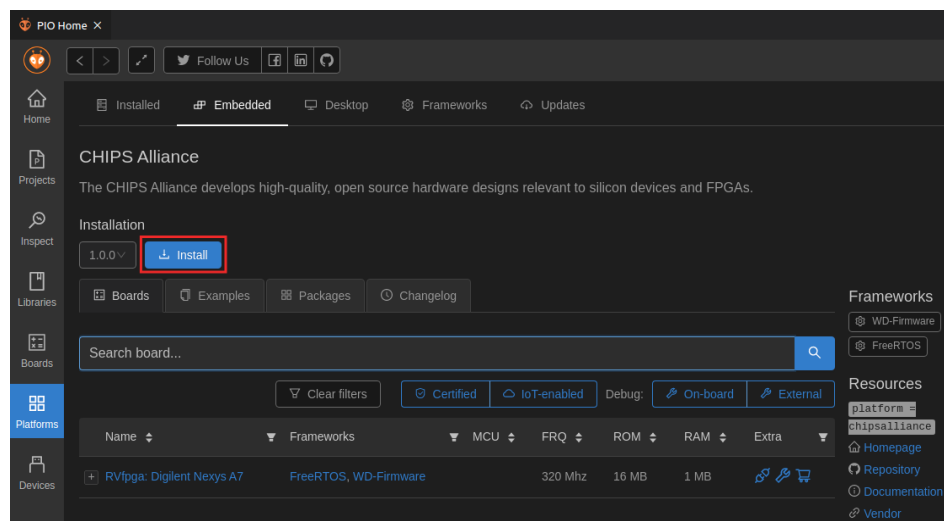

Figure 96. Installing the CHIPS Alliance Platform
- After clicking on the **CHIPS Alliance** button, you will see the details of the Chips Alliance platform (as in Figure 96). Install it by clicking on the **Install** button (Figure 96).